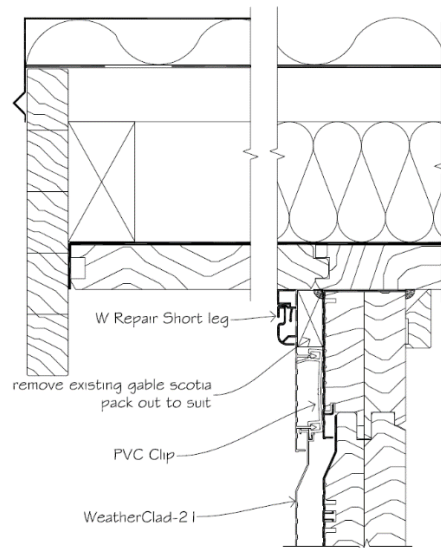

Fig.4
- The last cladding board will probably need cutting down to height to fit. (See Fig.4)